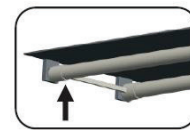

Fig:8
4) Install the LED T8 U-Bend replacement lamp(Fig.8).